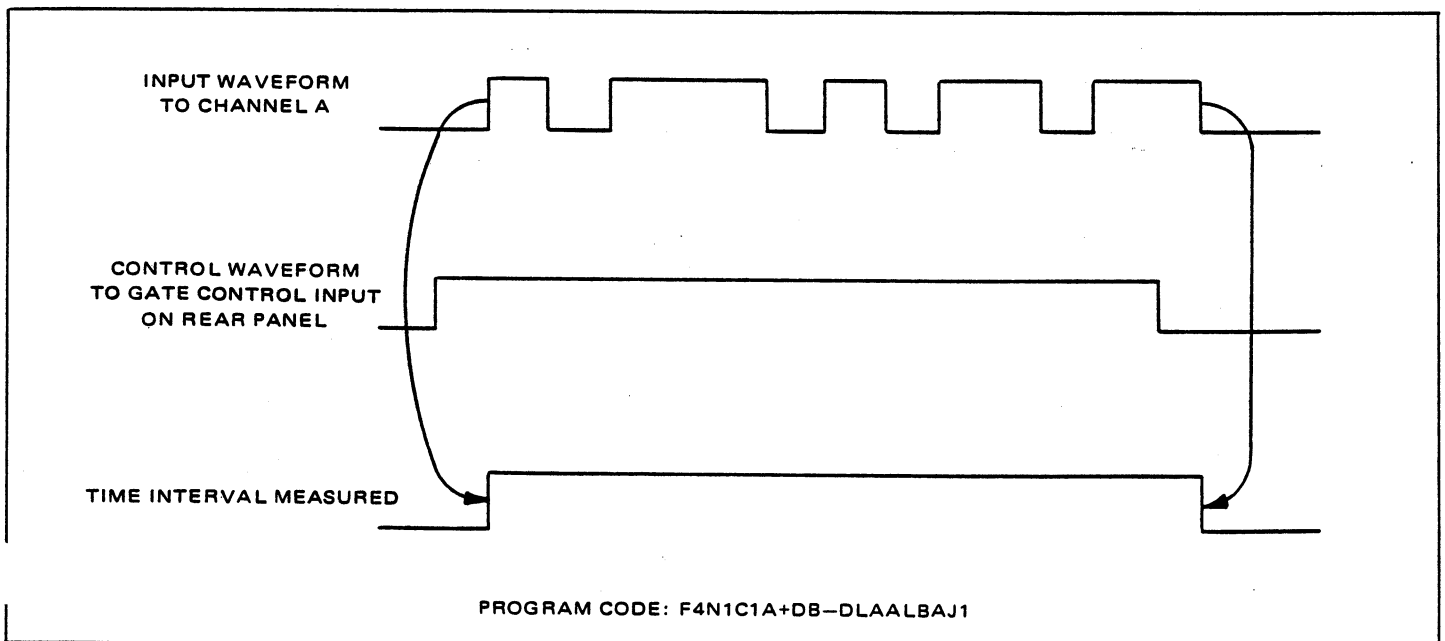

Figure 3.8 - Selective Gate Example 1
3.2.11.3.2.1 If the input and control waveforms shown below are applied to the counter, the resultant time interval measured will be as shown in Figure 3.8.